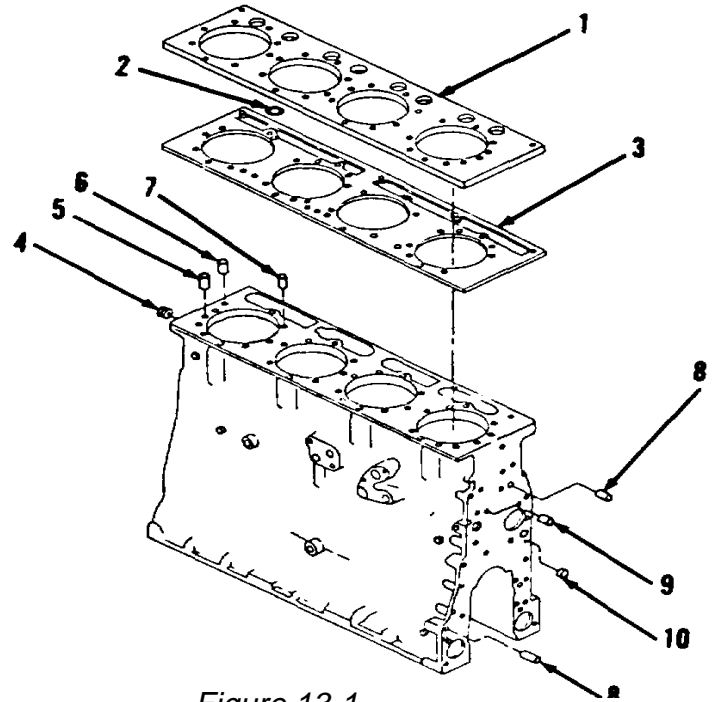
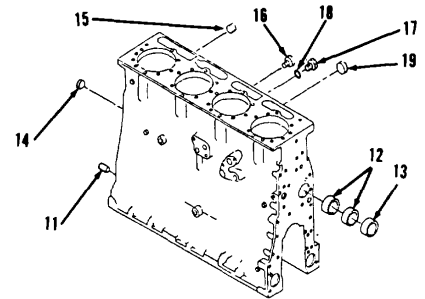
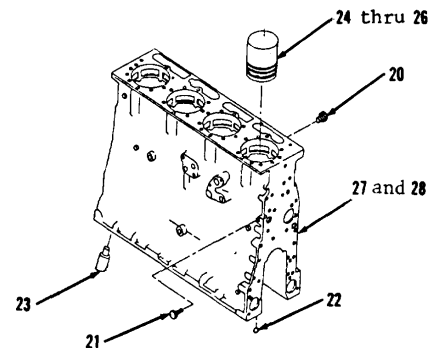

Figure 13-1.
Figure 13-2.
Figure 13-3.
1. Remove plate (1), preformed packing (2) and gasket (3, Figure 13-1). Discard preformed packing (2) and gasket (3). Remove all gasket material from mounting surfaces.
2. Remove plug (4), pin (5) and dowels (6 and 7).
3. Remove dowel (8), stud (9) and cup plug (10). Discard cup plug (10).
4. Remove two dowels (11, Figure 13-2).
5. Using camshaft bearing tool group and ratchet box wrench, remove two bearings (12) and bearing (13).
6. Remove plugs (14 thru 17) and washer (18). Discard washer (18).
7. Remove and discard cup plug (19).
8. Remove two plugs (20), plug (21) and five balls (22, Figure 13-3).
9. Using suitable hammer and driver, remove and discard four orifices (23).